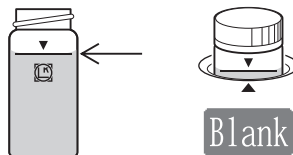

Fig.4
3. Insert the cell filled with pretreated sample into the cell box with ▼ of cell facing ▲ of cell box. Press <Blank>. (Fig.4)